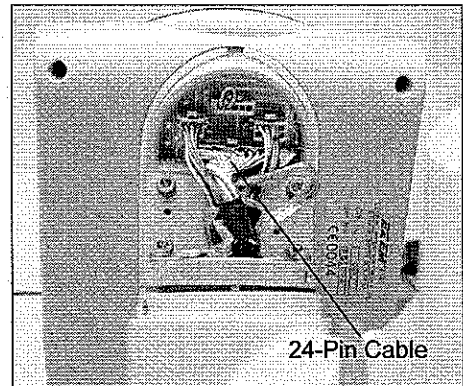

Figure 4-20: Controller PCB
- a. Remove the Injector Controller Cable Cover (see Section 5.4.1 – Replacing the Injector Controller Cable Cover) and disconnect the 24-pin connector from the back of the Controller PCB (see Figure 4-20).